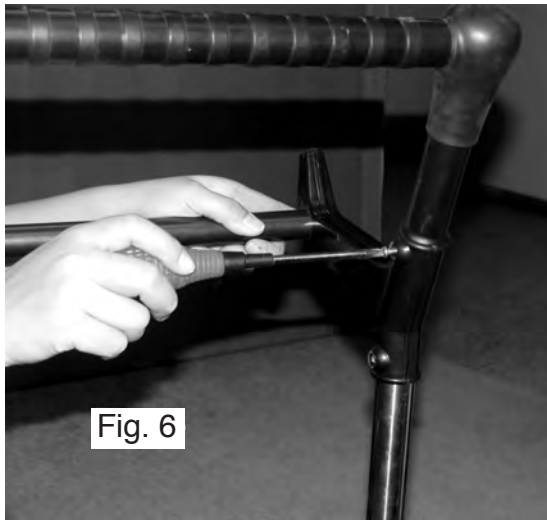

Fig. 6
- Slide the caddy handle into the receptacle on the top of the caddy hooks. The handle should curve away from the caddy towards the back of the unit (away from the caddy hooks). Align the screw holes with the screw boss on the caddy hook. Tighten all Phillips head machine head screws at this point. (See Fig 6)